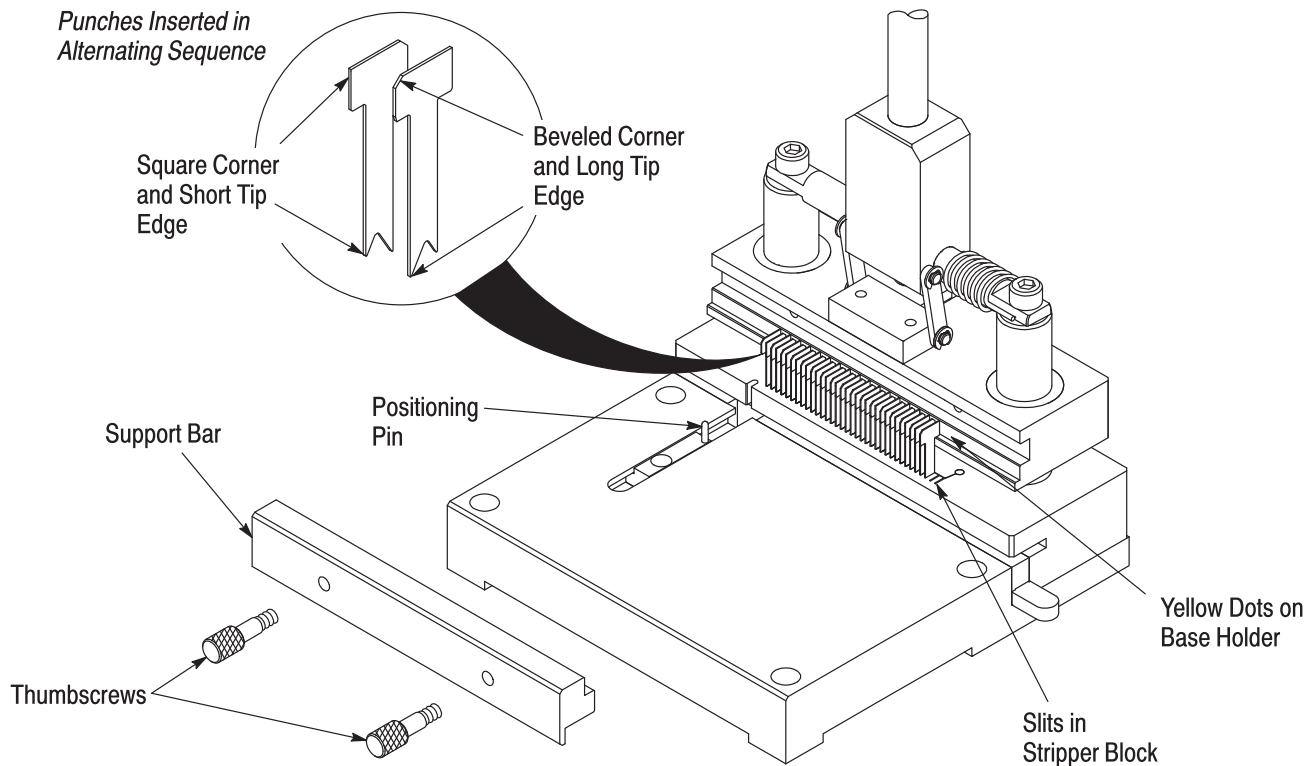

Figure 2
1. Remove the two thumbscrews securing the support bar. Remove the support bar. Refer to Figure 2.
2. Starting at the side of the tool with the positioning pin, insert the punches, tip end first, straight into the slits in the stripper block. See Figure 2. Make sure to alternate the sequence of the punches so that a short tip edge faces outward, then a long tip edge faces outward. Use the series of yellow dots located on the base holder as a guide for placing the punch groups. When properly installed, the beveled corner (indicating the long tip) on the head of the punch alternating with the square corner (indicating a short tip) will be visible. Refer to Figure 2.